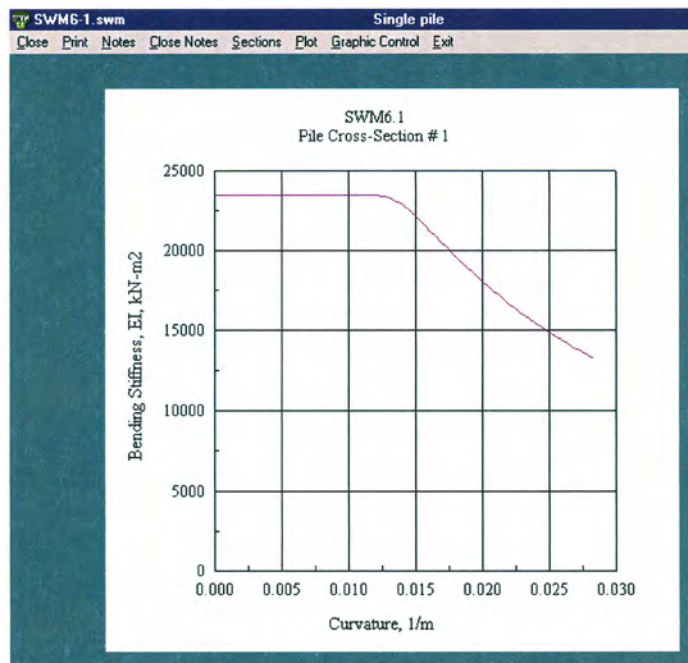

Fig. 27c Curvature vs. Bending Stiffness for the Pile Cross Section(s)
- Bending Stiffness – Curvature ( $EI - \phi$ ) [Fig. 27c]